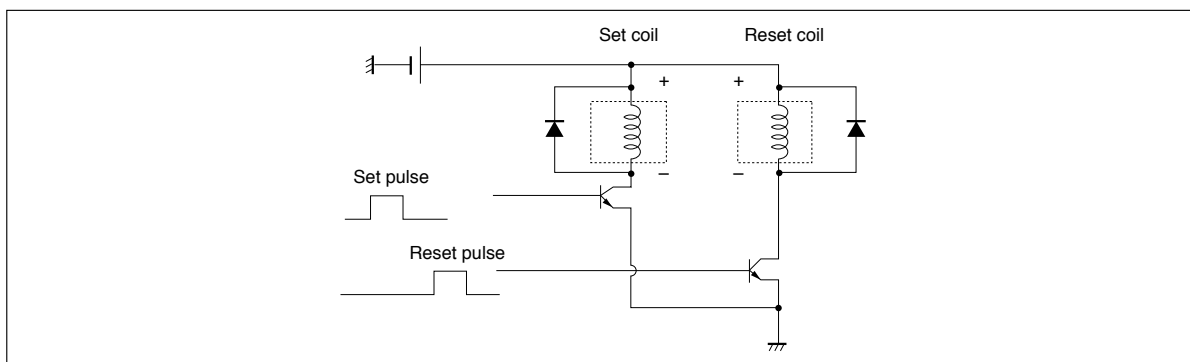

Fig.8 Drive Circuit of Latching Relay (Example of Double Coil Latching Type)
(6) Latching relay drive circuit
- ① Since the relay coil has an inductive impedance, a counter electromotive force is generated when the circuit is opened. This voltage may damage the relay driver transistor, and therefore a diode is connected in parallel with each coil. With a single coil latching type relay, however, a diode cannot be used because the current direction of the coil is inverted. Therefore, when a single coil latching type relay is used, select a transistor with sufficient reverse breakdown voltage.
- ② A latching relay is driven by a pulsating coil voltage. The pulse width of this drive voltage must be 10 ms or wider. If the pulse is too short, the relay may not operate.
- ③ Apply a voltage to the coil in the polarity specified by the internal connection diagram of the relay. With a double coil latching type relay, do not apply voltage in a manner that both the set and reset coils are energized at the same time. (Refer to Fig. 8.)